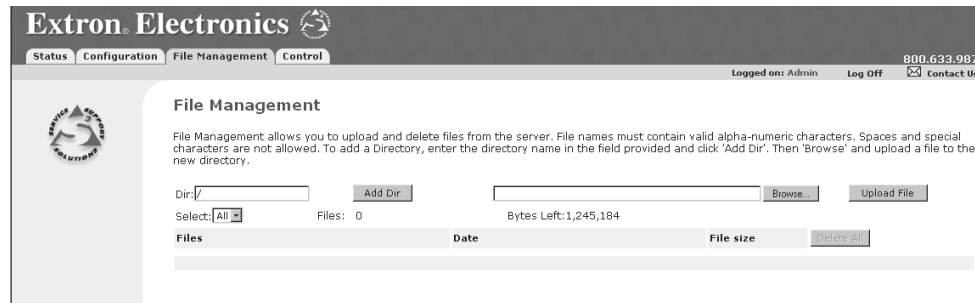

Figure 6-7 — Web server File Management screen
1. Select the File Management tab and the File Management screen (figure 6-7) is displayed.